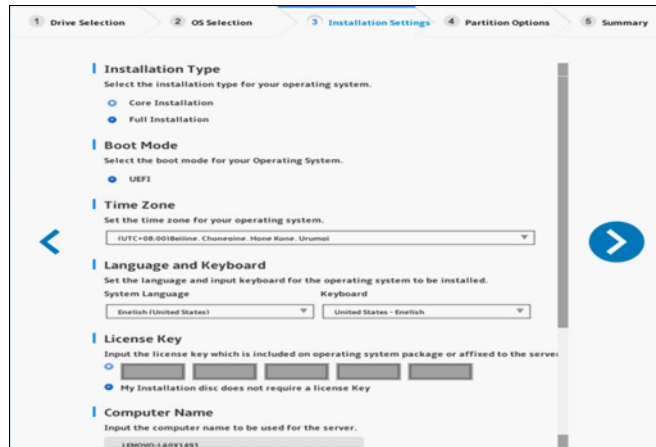

Figure 6-32 Windows installation settings
7. Select the Installation type, Boot mode, Time Zone, Language (optional), License Key and NetBIOS host name, as shown in Figure 6-32 on page 202 and click **Next**.